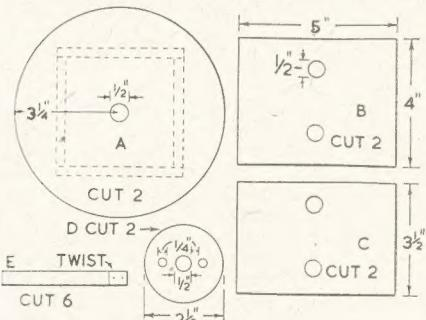

Fig. 1—The parts of the drum.
As a trial, cut the pieces 3½ins., 3ins., 2½ins., 2½ins., 2ins. and 1½ins. Drill two small holes in each, at one end, and then, holding them in a vice or between pliers, twist them to a right-angle near the end where the holes have been drilled, as shown at Fig. 1 (E). Divide one of the discs into six equal divisions round the edge (60 degrees each by protractor) then screw one piece of the metal strip in the middle of each section. This is shown at Fig. 3, but for clearness only one of the six notes is shown.